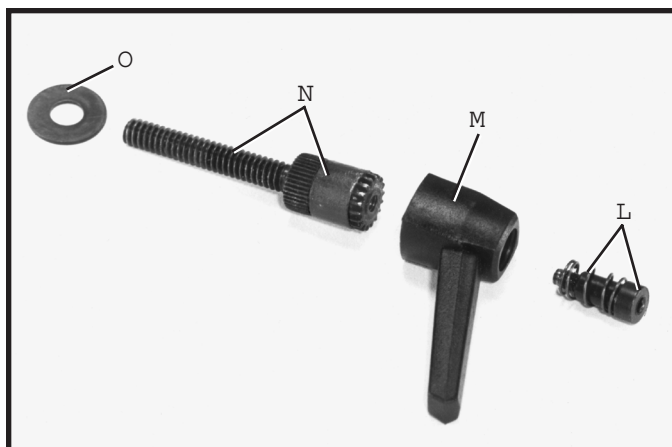
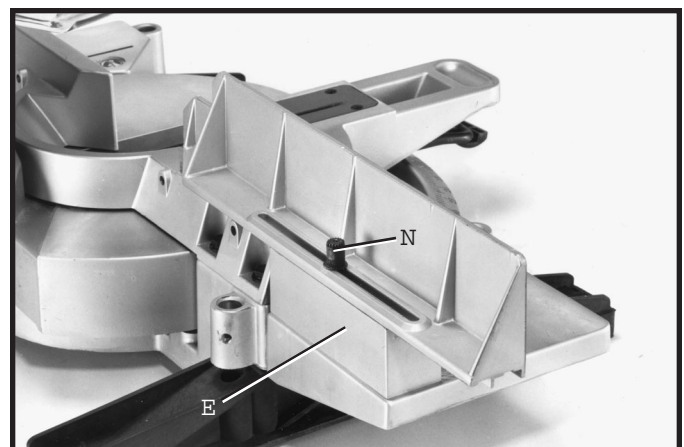

Fig. 7G
Fig. 7H
7. Remove screw and spring (L) Fig. 7G, and lock handle (M) from locking stud (N) as shown.
8. Place 1/4" flat washer (O) Fig. 7G, onto locking stud (N) and insert locking stud (N) Fig. 7H, through slot in fence slide and thread locking stud into threaded hole in fence slide support (E) as shown.